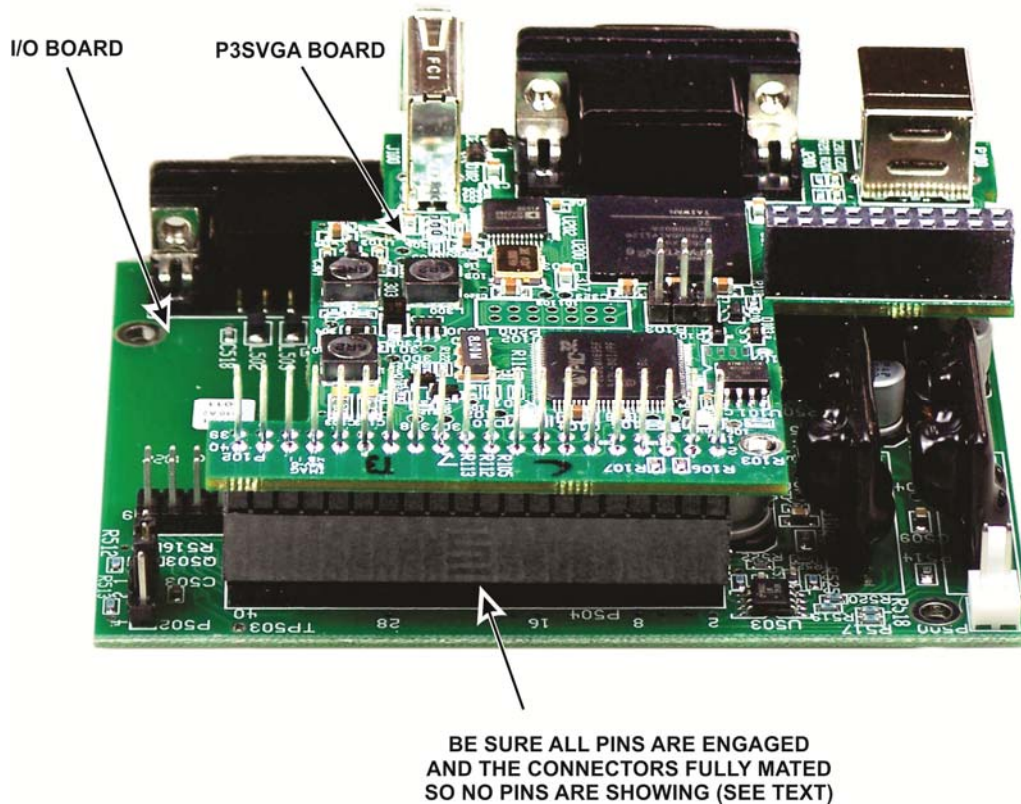

Figure 11. Mating the I/O and P3SVGA Boards.
□ Mount the P3SVGA board on the I/O board as shown in Figure 11. The connector on the P3SVGA board mates with the connector on the I/O board that originally received the ribbon cable. **Be sure the connectors are aligned so that all pins engage. To avoid over-stressing the boards, place the I/O board on a firm surface. You may need to rock the P3SVGA board slightly while pressing down to “walk” the pins into the connector like you did when removing the ribbon cable earlier.**